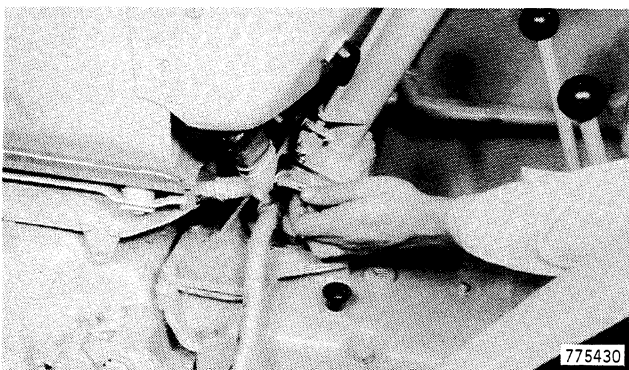

Figure 170
83. Connect the throttle linkage, Figure 170.